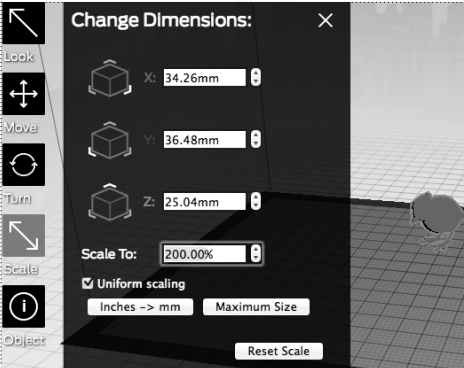

Fig. 10.12
9. Click the Scale button twice. In the Change Dimensions menu, edit the following settings [Fig 10.12]: